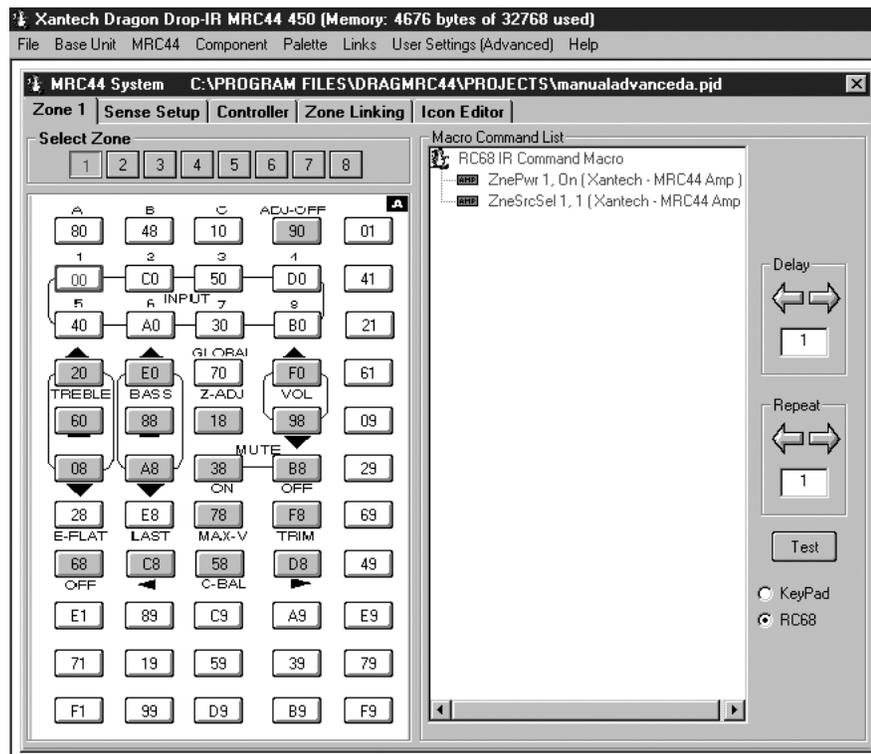

Figure 22 – RC68 IR Command Macro Window
In the MRC44 System Window, Click on RC68 in the lower right hand corner of the MRC44 System Window and the image shown in **Figure 22** will appear.
1. Open the MRC44 System Window to the RC68 IR Command Macro Window as shown in **Figure 22**.